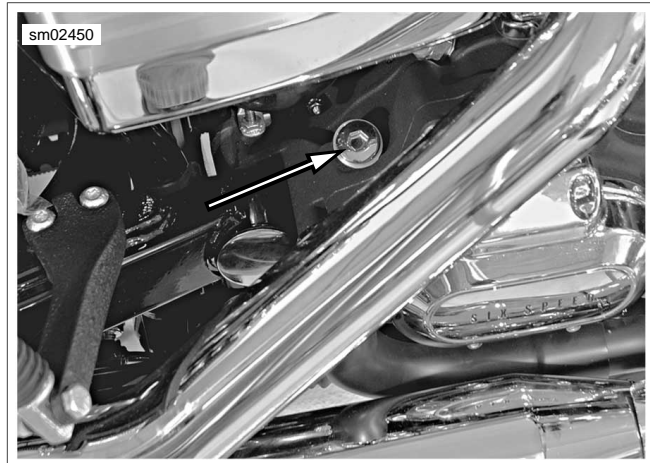

Figure 1-17. Transmission Filler Plug/Dipstick Location
- See Figure 1-17. Remove transmission filler plug.